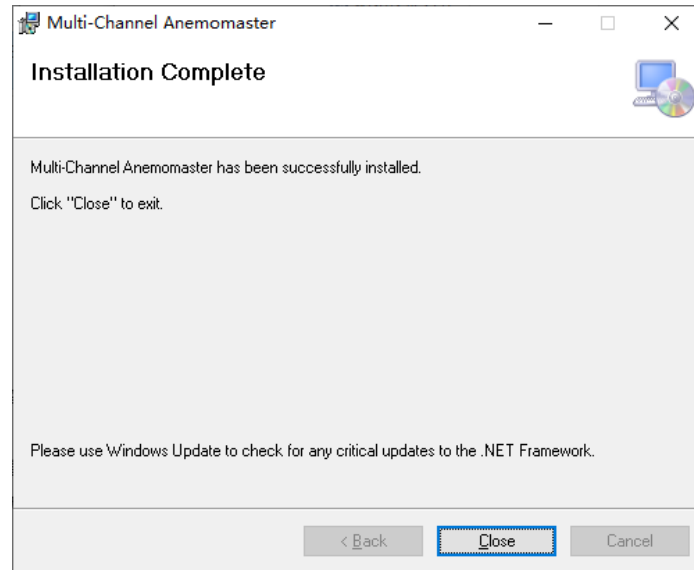

Figure 2-5 Installation Complete Dialog Box
5) When the installation is completed, the dialog box as shown in Figure 2-5 will appear.